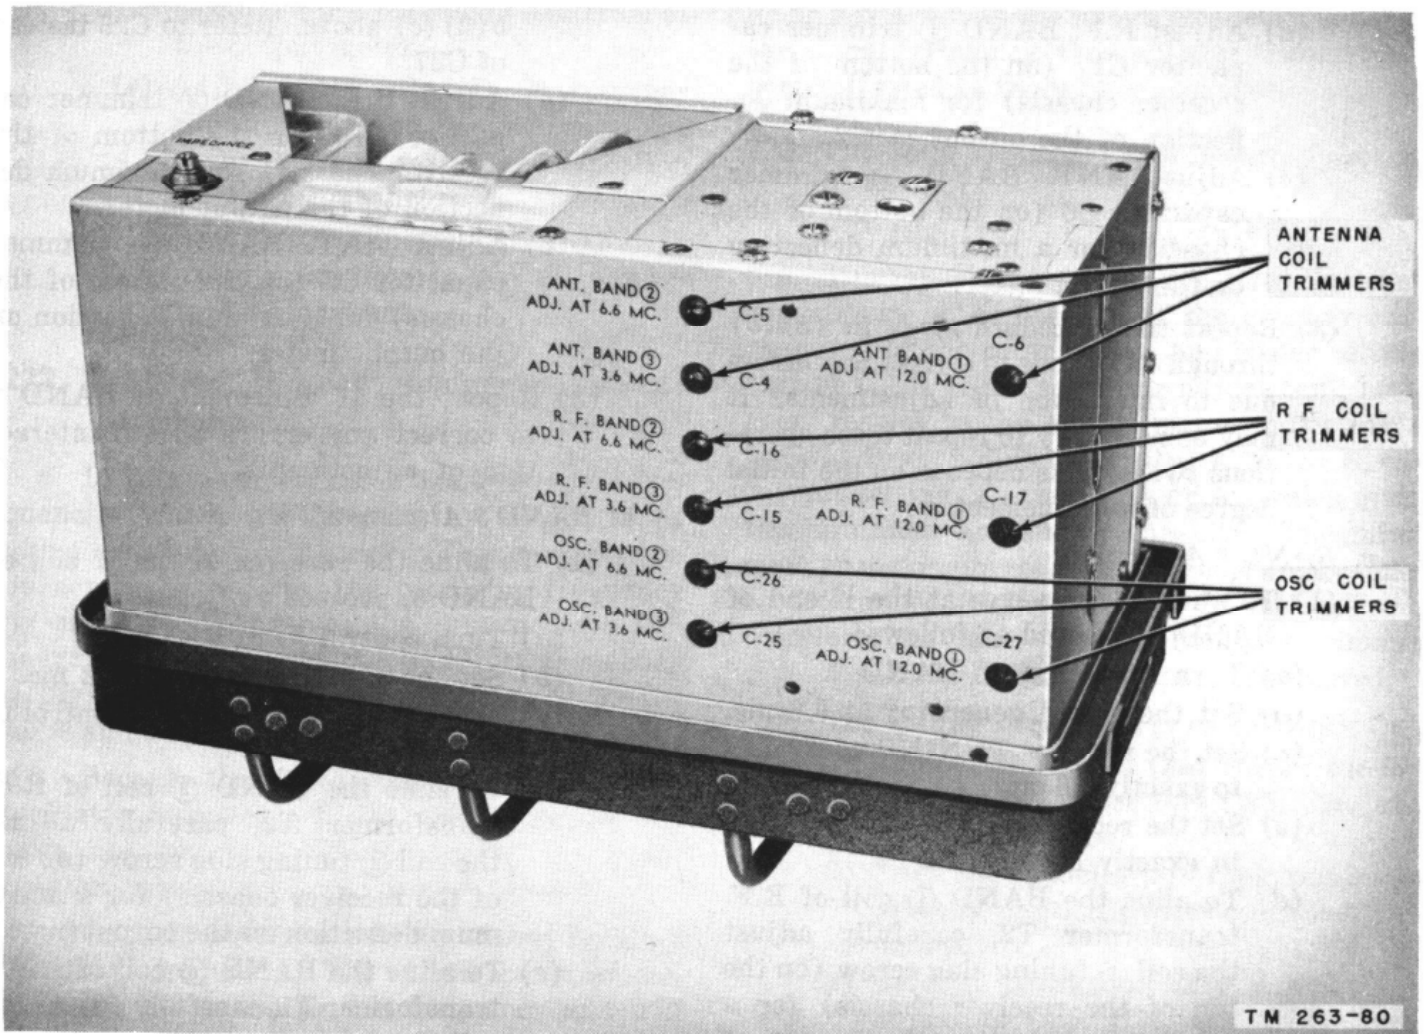

Figure 161. Receiver bottom, alinement points.
- (1) Remove the panel that covers oscillator trimmer capacitors C25, C26, and C27 (fig. 161).
- (2) Turn the capacitors to their minimum capacity position (plates completely unmeshed).
- (3) Refer to paragraph 221b, c, and d for adjusting C25, C26, and C27. Turn the capacitors until a first maximum is reached. This puts the oscillator